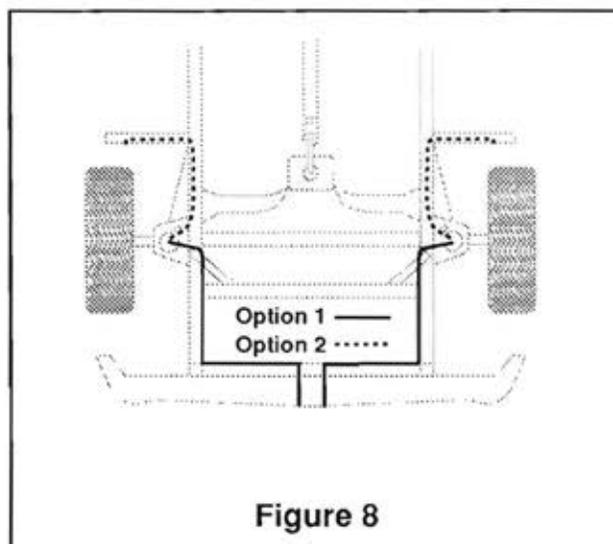

Figure 8
- A. Select a location for the inflation valves in the rocker panel flange or rear floor pan insuring that each valve will be protected and accessible with an air hose (Figure 8).